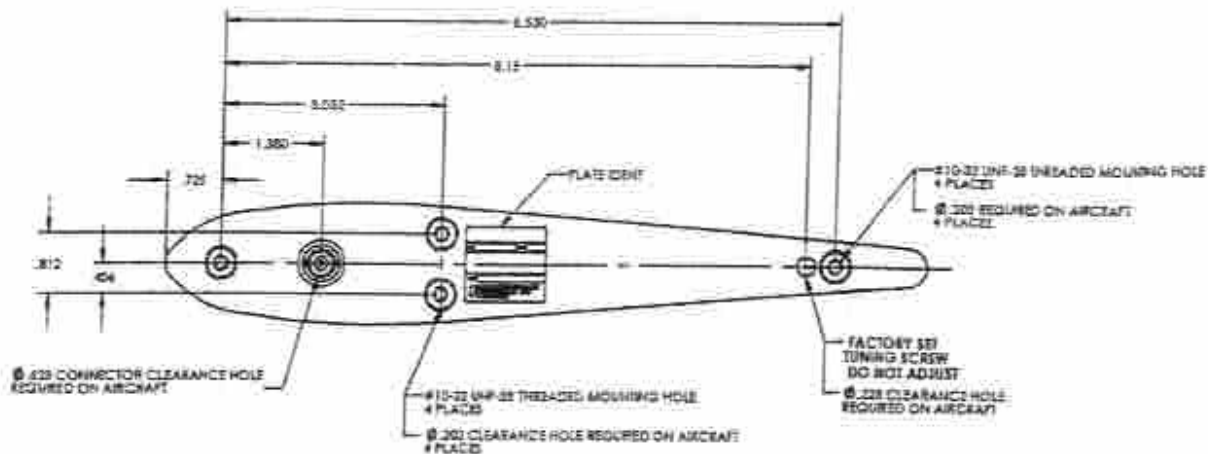

FIGURE 1.
- 2) Drill holes in aircraft skin per footprint on figure 1. **NOTE: The picture in figures 1 & 2 is shown below is not to scale, is for reference only. Do not use it as a template for drilling holes.**